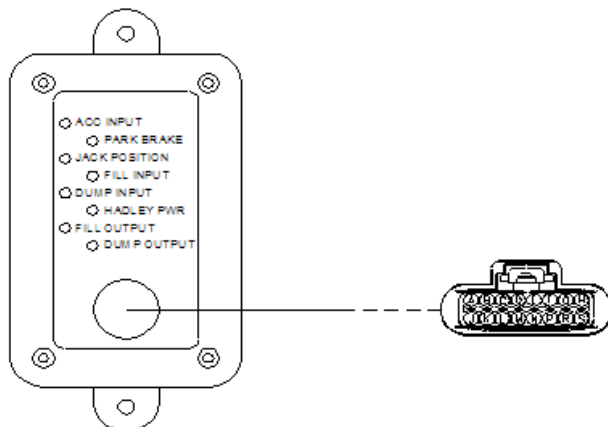

FIG. 2-1
1. Locate Hadley Interface Module in the left front exterior compartment. Refer to FIG. 2-1.